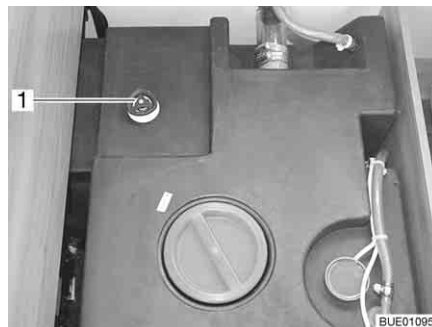

Fig. 130 Water tank with handle
- Turn the handle (Fig. 130,1) on the water tank in an anticlockwise direction as far as possible beyond the resistance to fully open the drainage opening.